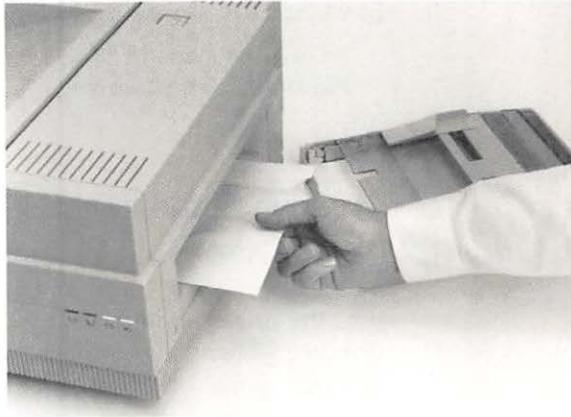

Figure 6-15
- 2. If the jam is in the cassette area, pull the cassette out of the printer until you can release the paper. (See Figure 6-15.)**